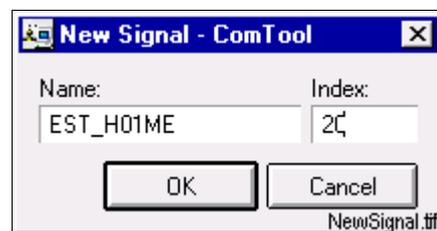

Figure 14. New Signal dialog
- 1 Select **New** from the **Signal** menu. This opens the New Signal dialog shown in Figure 14.